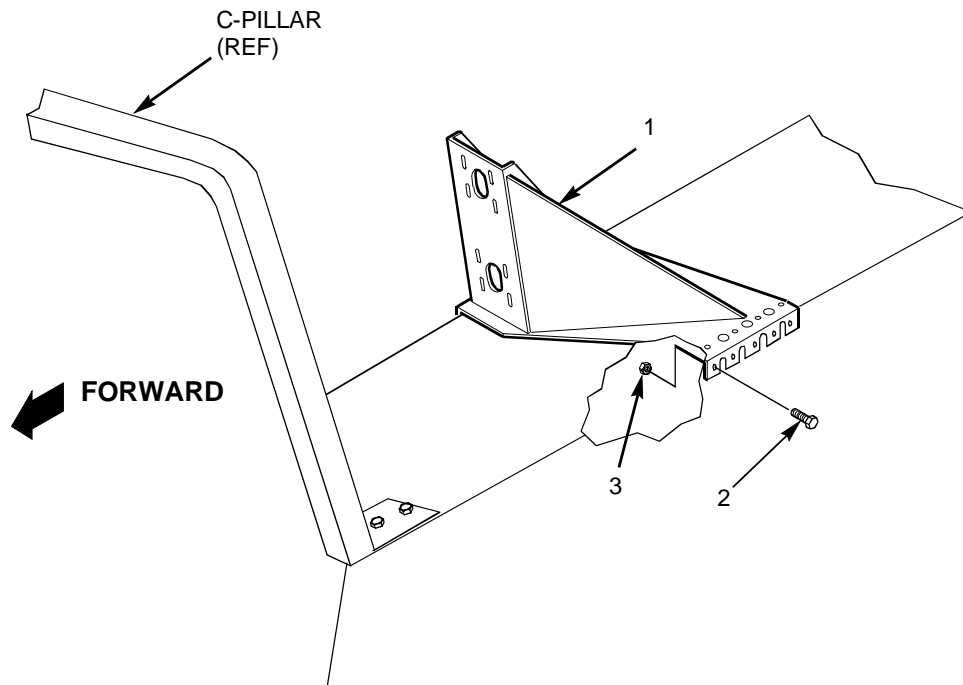

Figure 2-15. C-Partition Support Mount Removal (4 Door Only)
4. Remove C-partition support mounts as follows (see figure 2-15).
- a. Remove 20 capscrews (2) and locknuts (3) securing C-partition support mount (1). Discard locknuts (3).
- b. Remove C-partition support mount (1).